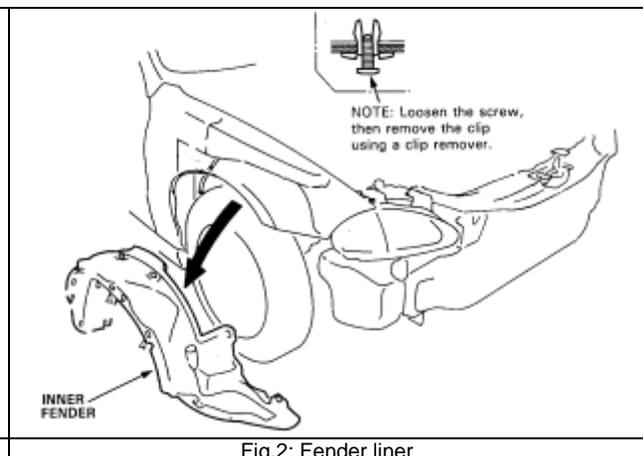

Fig.2: Fender liner
- ii. Remove the passenger side wheel. Loosen the passenger-side fender well liner and remove to gain access to the area immediately behind the front bumper. (Fig 2)